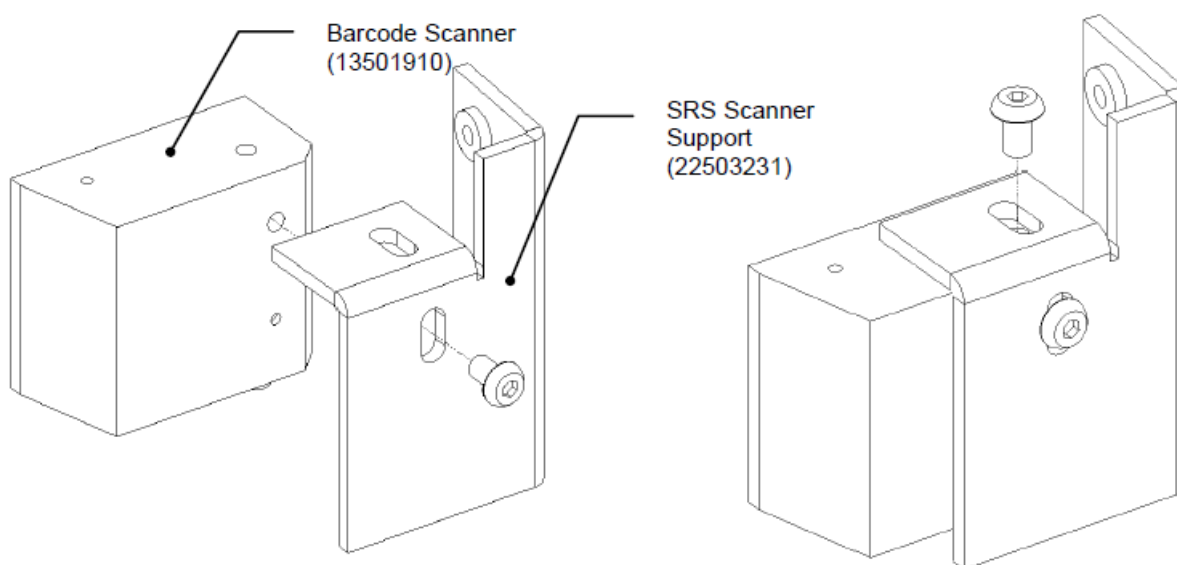

Figure V-11: The Barcode Scanner Assembly and the Sample Rack Scanner Support
1. Disconnect the assembly from the PCB, and then remove the Barcode Scanner Assembly from the Carriage Support by removing the two M3x6 Socket Button Head Screws (Figure V-11). When replacing the assembly, ensure that the Barcode Scanner Assembly is mounted to the left end of the slot as shown in the right part of Figure V-11.
2. Remove the Barcode Scanner Assembly from the Sample Rack Scanner Support by removing the two M3x5 Button Head Cap Screws (Figure V-11).